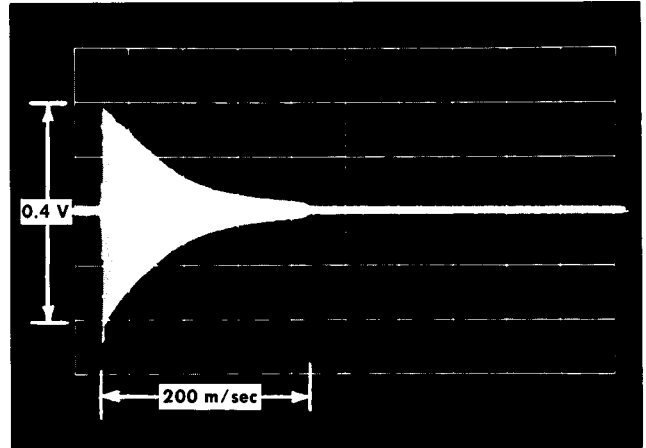

Fig. 5-1. Degauss waveform, coupled through $10\ \Omega$ loop.
- Check the stored display for a four-centimeter (0.4 V) damped waveform lasting approximately 200 milliseconds. See Fig. 5-1.